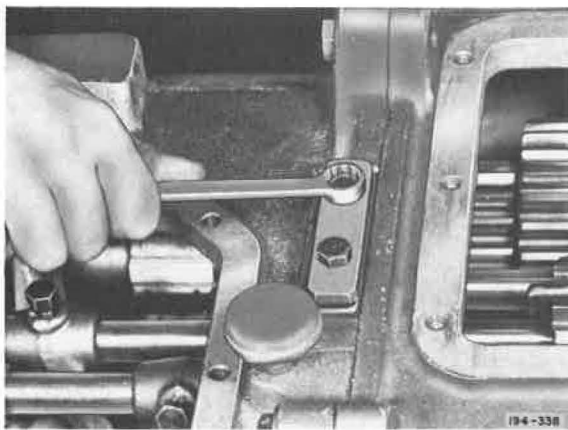

Figure 5-573. Remove Shifter Rail Poppet Ball Cover
5. Cautiously remove shifter rail poppet ball cover (cover is spring loaded), springs and balls. See Figure 5-573.